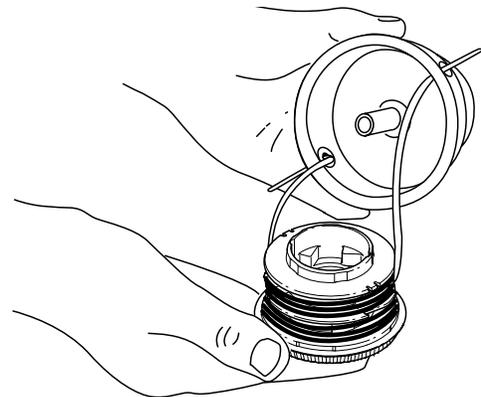

Fig. 15
- Insert the ends of the prewound inner reel line into the outer spool eyelets (Fig. 15). Push the new inner reel, arrow side up, into the outer spool.